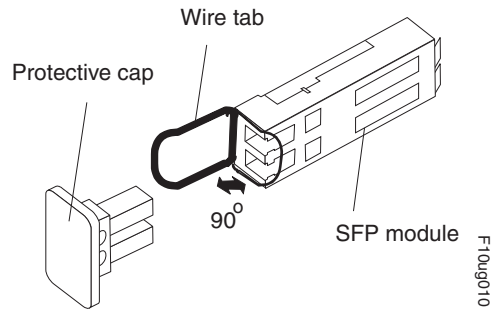

Figure 36. Unlocking the SFP module latch - wire variety
- For SFP modules that contain wire tabs, unlock the SFP module latch by pulling the wire latch outward 90°, as shown in Figure 36 on page 51.